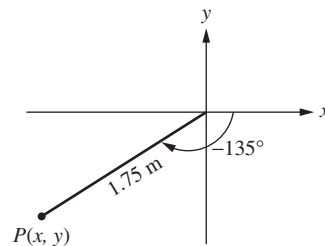

Figure P3.13 A one-link planar robot for problem P3-13.
- 3-13.** A one-link planar robot moves in the x - y plane as shown in Fig. P3.13. For the given l and θ , find the position $P(x, y)$ of the tip.